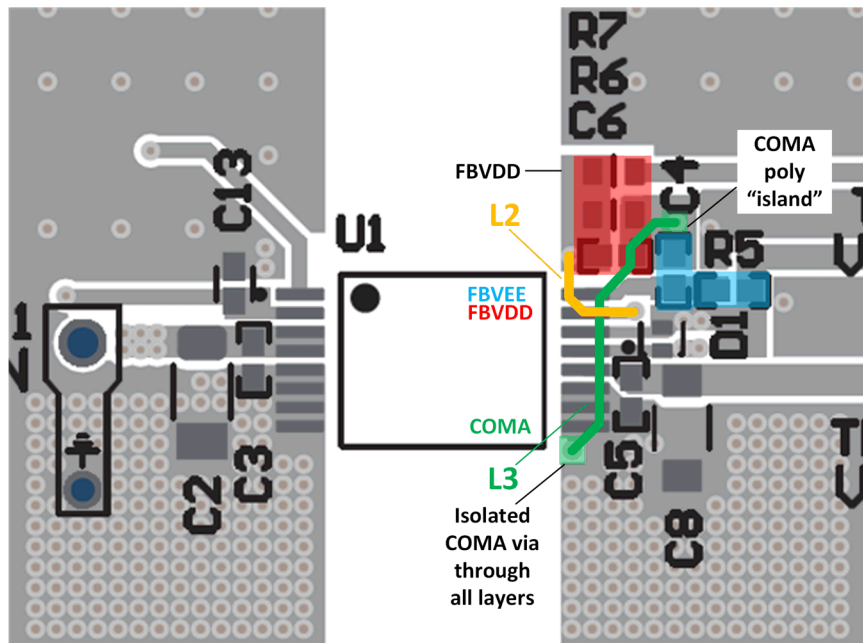

Figure 8-7. FBVDD (R6-7, C6), FBVVEE (R5, C4), COMA Routing
- f. A layout example is shown in Figure 8-7, where L2 (yellow) is routed on layer 2 and L3 (green) is routed on layer 3.